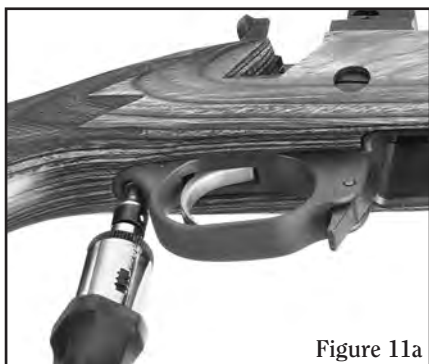

Figure 11a
- b. Loosen and remove the screw that holds the Trigger Guard/Magazine well. See Figures 11a & 11b.